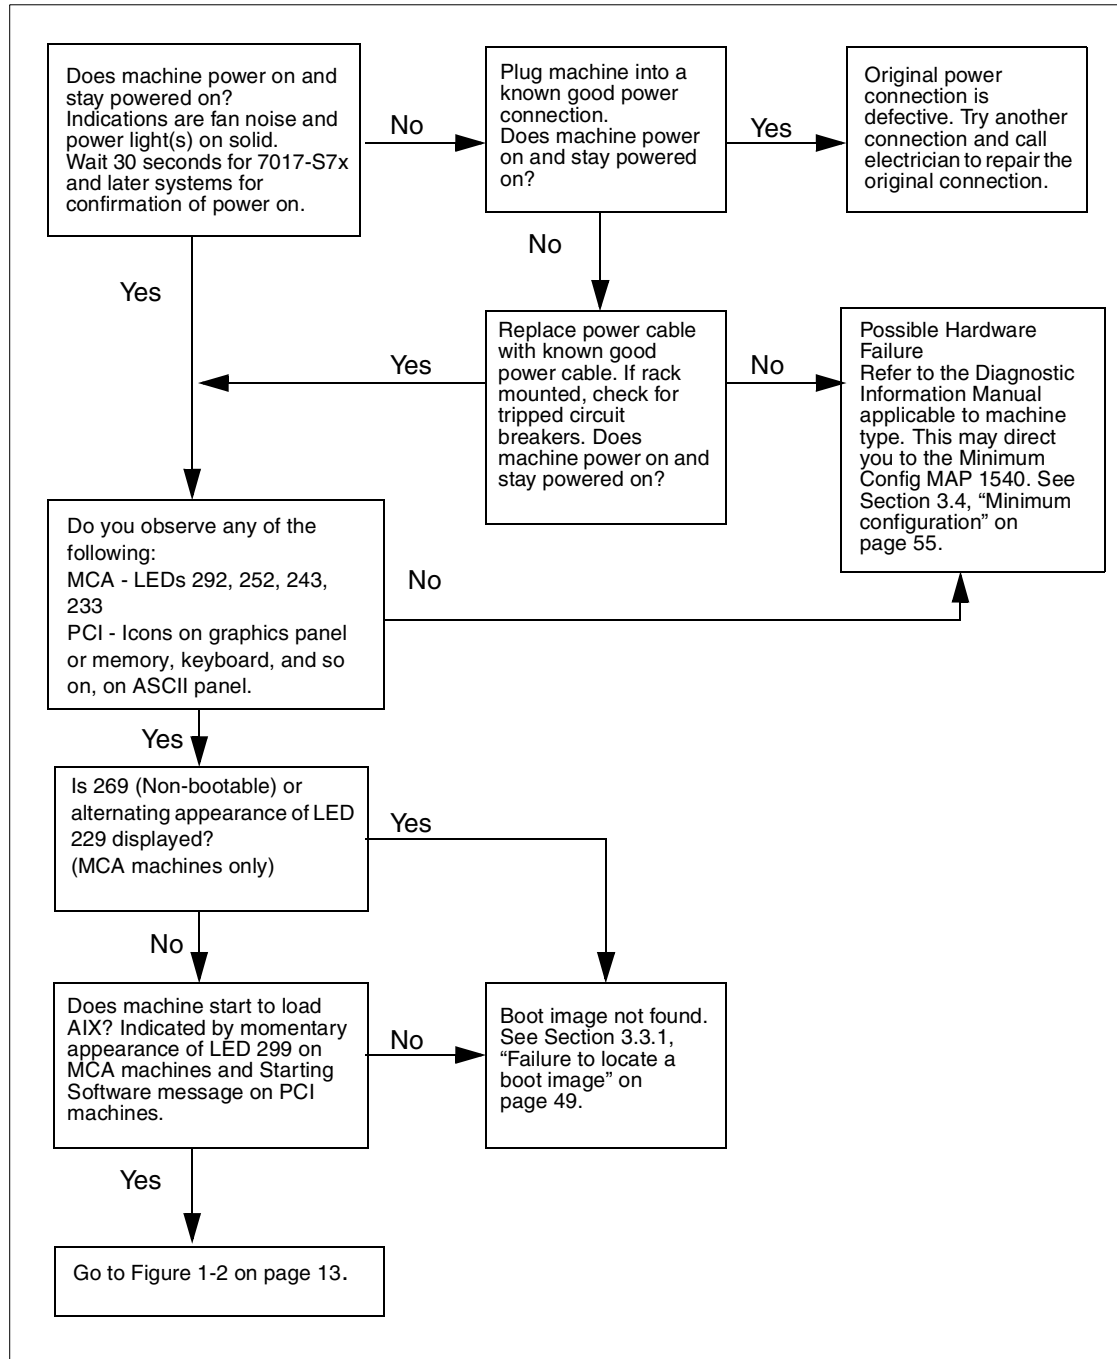
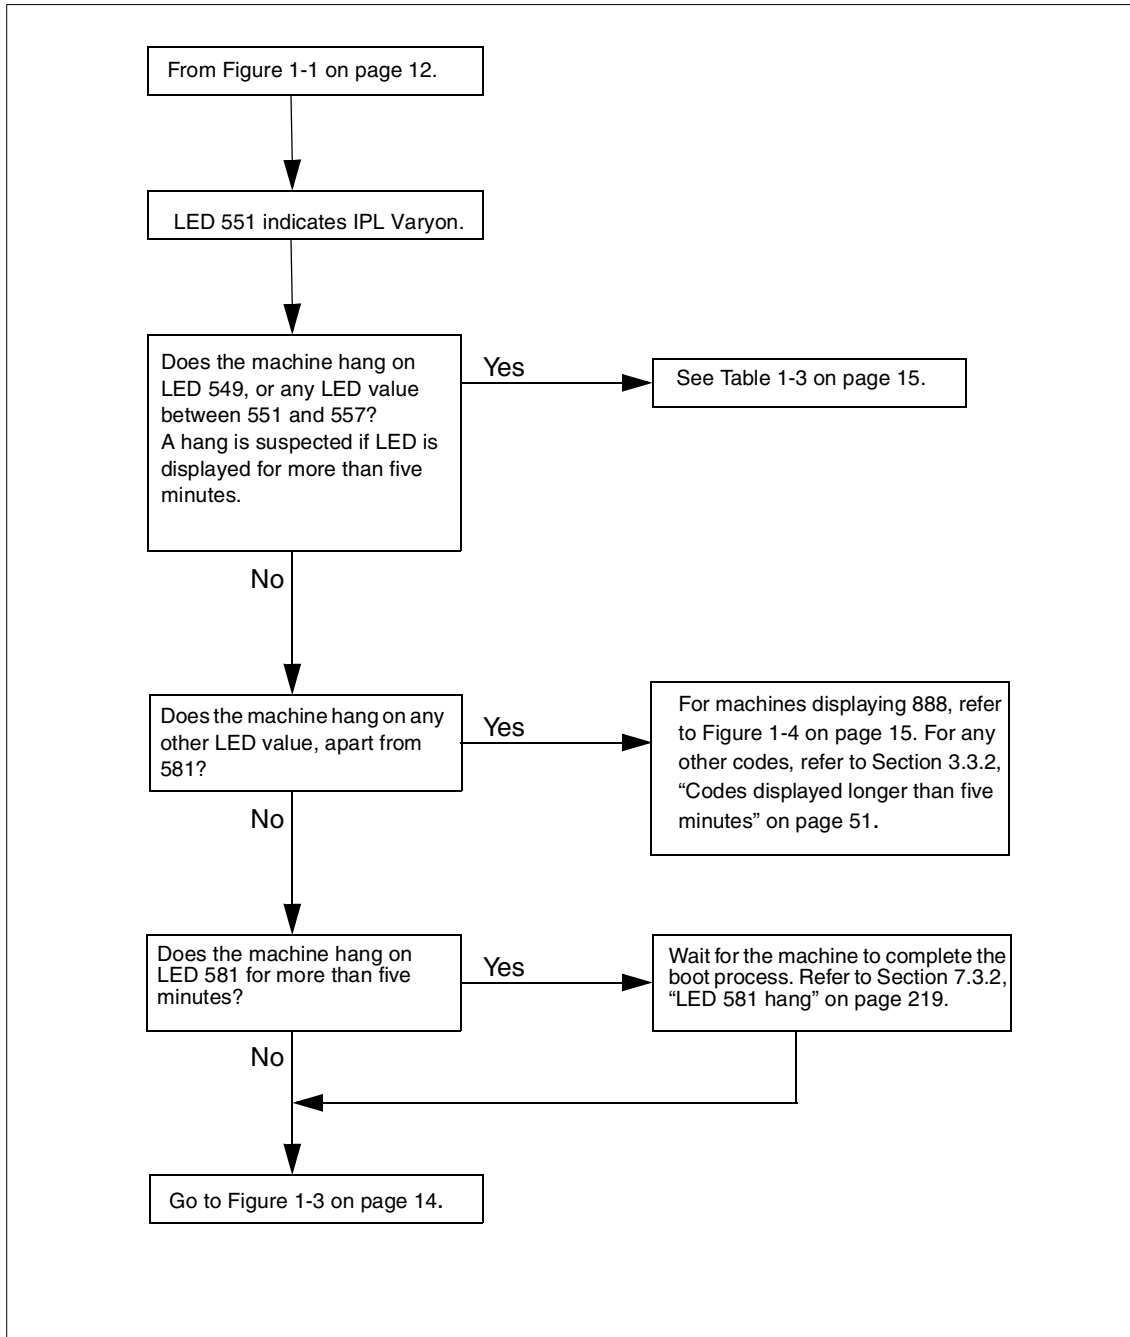
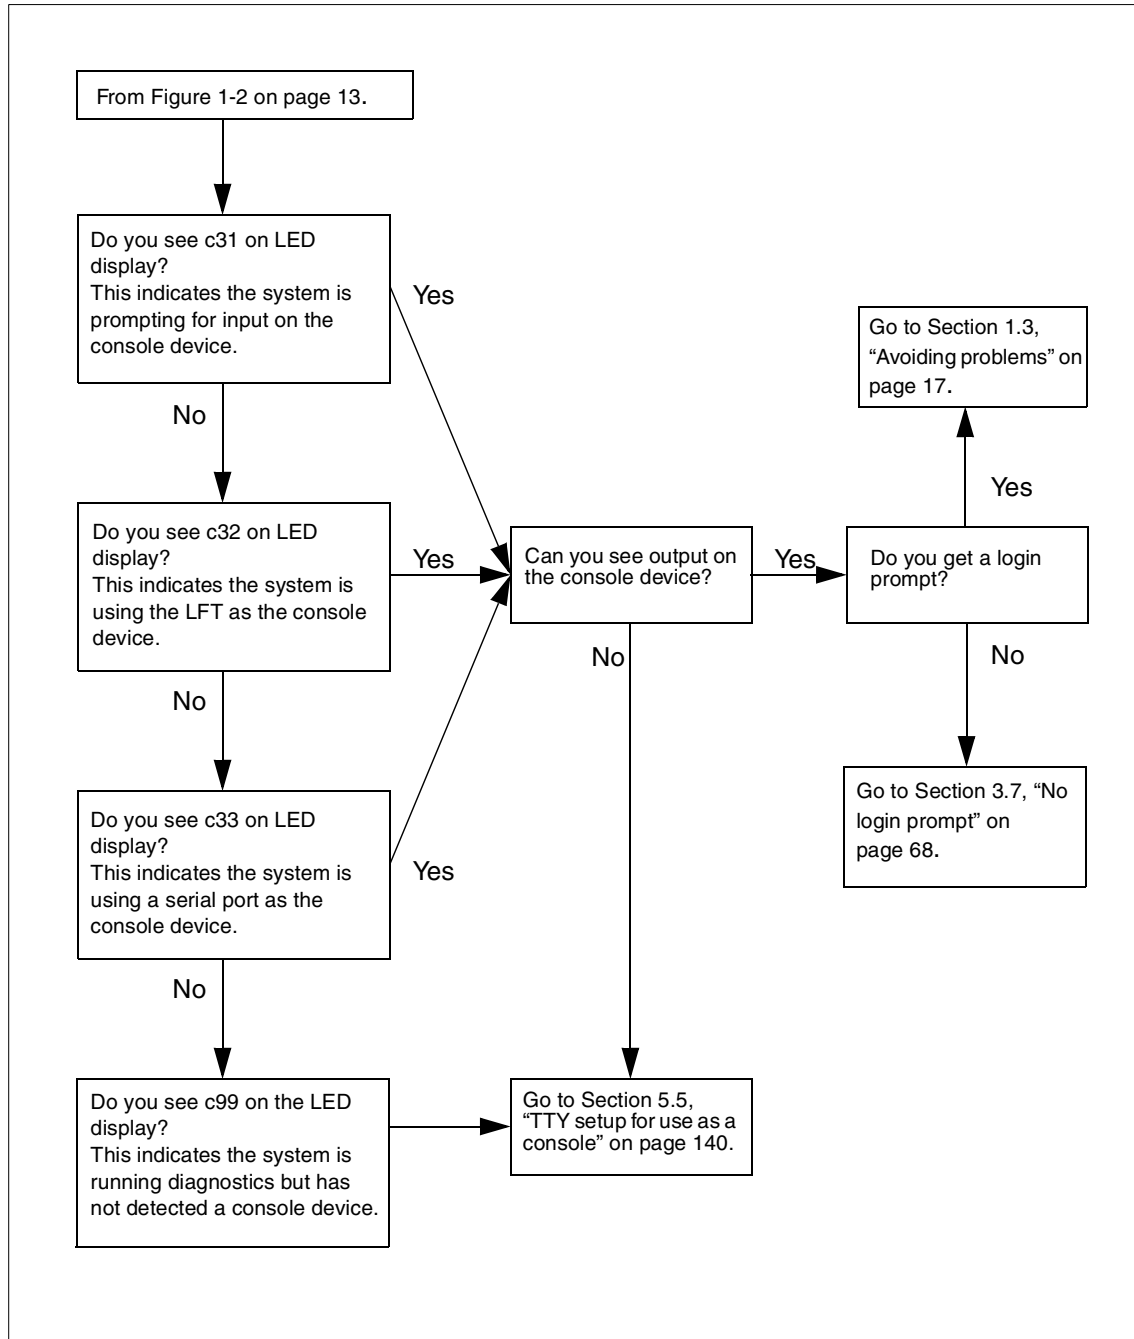

Figure 1-1 Boot path flowchart: part one
Figure 1-2 Boot path flowchart: Part two
Figure 1-3 Boot path flowchart: part three
Once you have defined the problem, you should use the flowcharts in Figure 1-1 on page 12, Figure 1-2 on page 13, and Figure 1-3 on page 14 and the symptom index cross reference chart in Table 1-3 on page 15 to direct you to the most relevant part of this book to perform basic troubleshooting of the suspected device or software component. During the investigative process, you should keep a log of the actions you perform in trying to determine the cause of the problem, and any actions you perform to correct the problem.
- ▶ If you have a boot problem, use the boot path flowchart starting in Figure 1-1 on page 12 in this section to decide on a course of action.